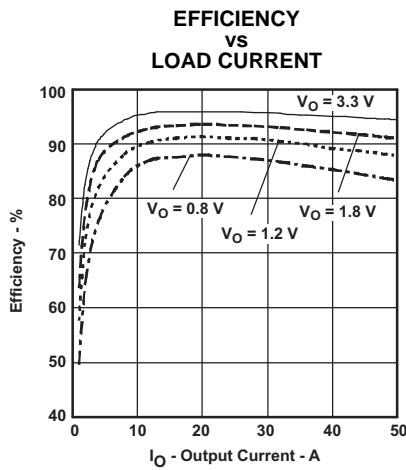
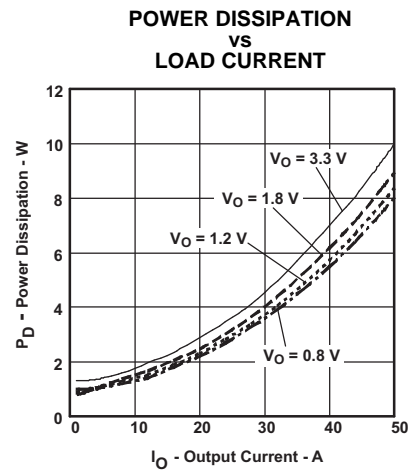

Figure 6.
Figure 7.
(3) The electrical characteristic data has been developed from actual products tested at 25°C. This data is considered typical for the converter. Applies to Figure 6 , and Figure 7.